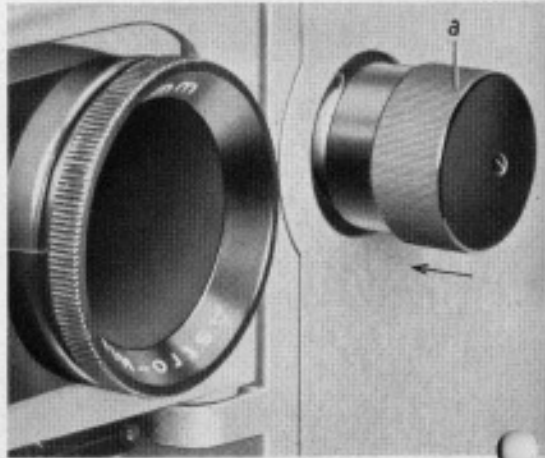

Fig. 10 24 Frames per sec.
2. Set frame-frequency control to 24 frames per sec (Fig. 10) for high-speed rewinding.